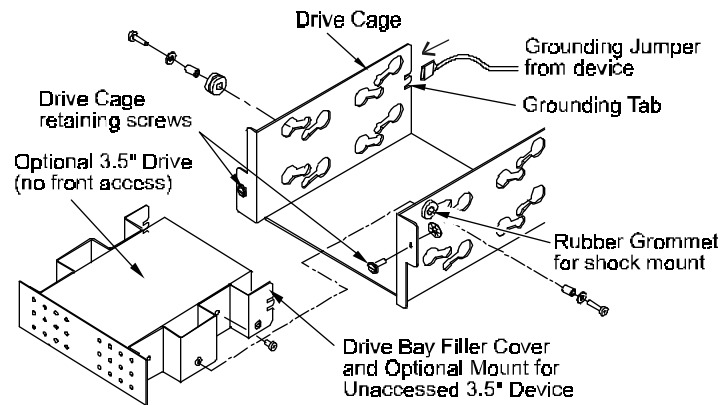

Figure 2-3: Optional Device Mounting
4. If you want to mount an optional 3.5" device in the drive bay, install the device in the Drive Bay Filler Cover Bracket (see **Figure 2-3**).
6. Attach a grounding jumper cable (provided in the shipping kit) from the disk drive to the grounding tab. See **Figure 2-3**.